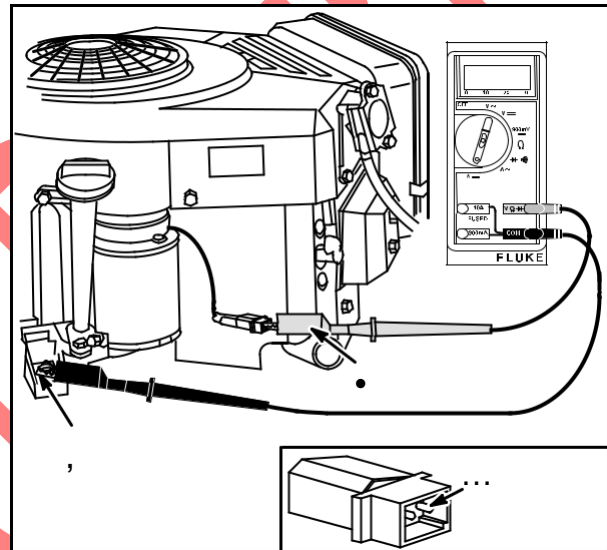

Fig. 18
Attach RED test lead clip (1) to AC output terminal (5), **Fig. 18**.